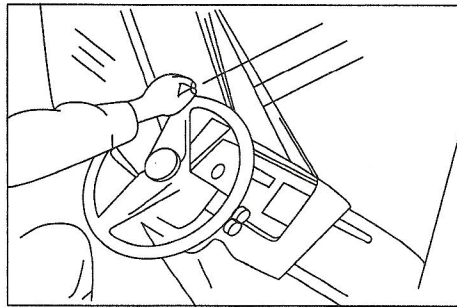

Fig. 05-25
- (2) Turn the steering-wheel to both right and left to its maximum travel limit (See Fig. 05-25).